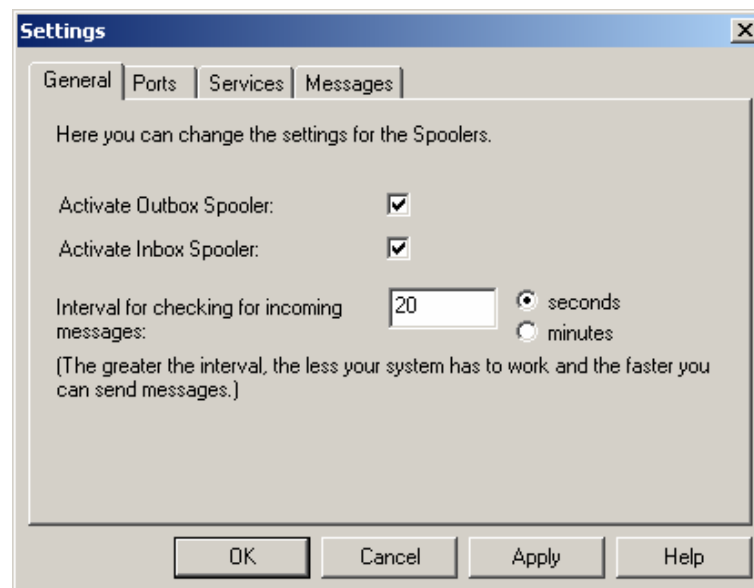

Figure A.18. SMS Configuration: General Tab
6. On the **General** tab of the **SMS Configuration** dialog box, check both the **Activate Outbox Spooler** and the **Activate Inbox Spooler** check boxes, as shown in **Figure A.18**.